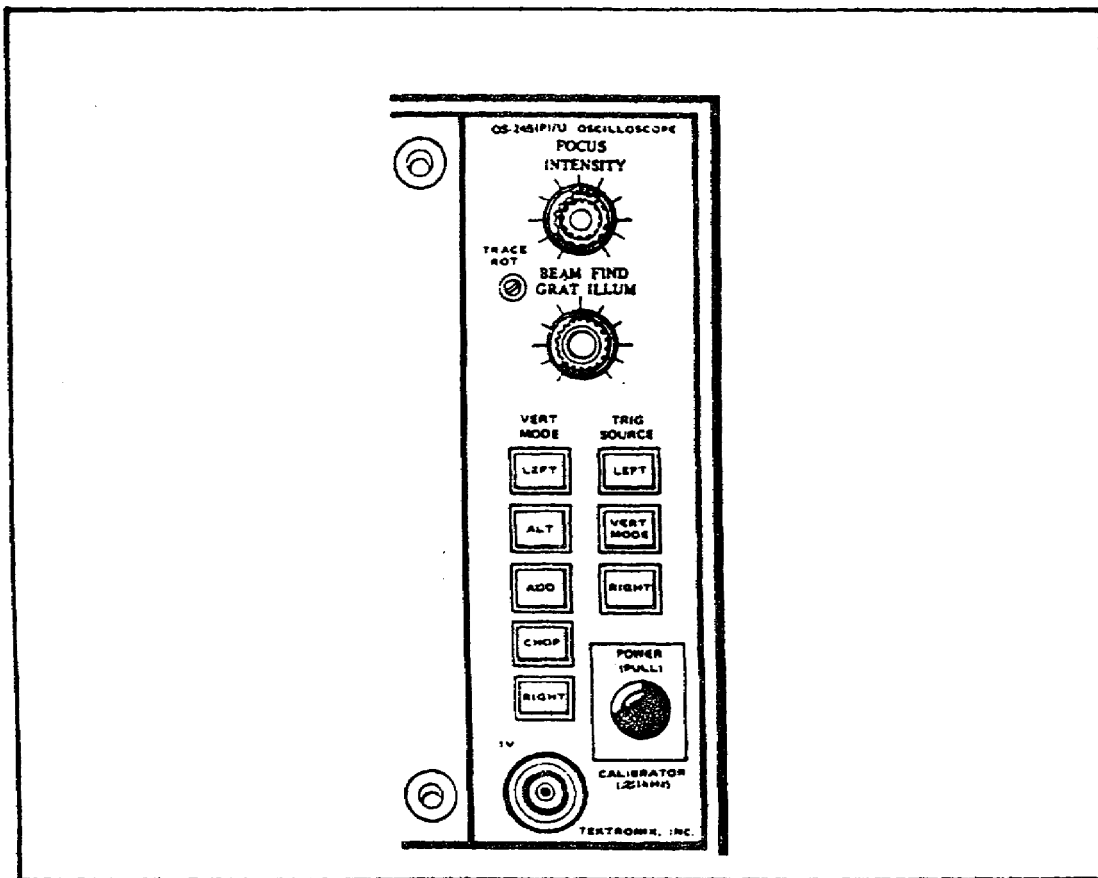

FIGURE 97. MAIN FRAME CONTROLS.
(1) *Front Panel* (figure 97 on the following page).